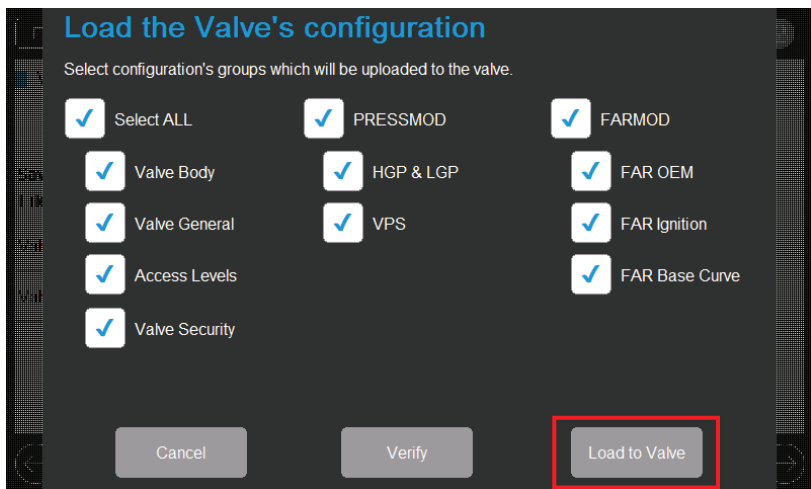
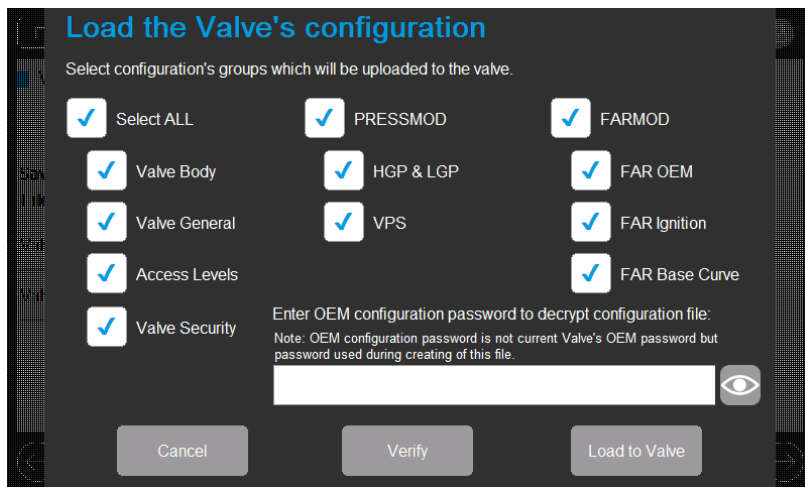

Fig. 102: Valve Production Cloning configuration groups selection, without passwords.
Fig. 103: Valve Production Cloning configuration groups selection, with passwords, 'Valve Security' group selected.
- a. The page look and next steps will depend on whether passwords have not been assigned (Refer to Fig. 102) or have been assigned (Refer to Fig. 103).
The steps for selecting and uploading the valve configuration groups without and with passwords is the same with one exception; the user does not need to fill in the OEM password if passwords have not been assigned. Refer to Fig. 102.